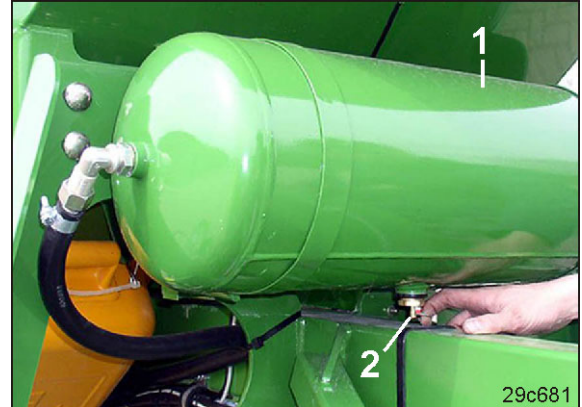

Fig. 223
1. Run the tractor engine (approx. 3 mins.), until the compressed air reservoir (Fig. 223/1) has filled.
3. Pull the drain valve (Fig. 223/2) in a sideways direction by the ring until no more water escapes from the compressed air reservoir.